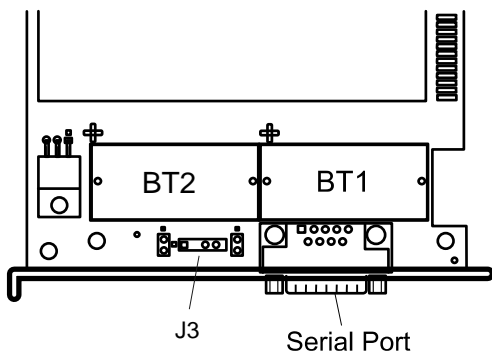

Figure 3-1. J3 Connector and Battery Locations on the PCI Cryptographic Coprocessor
- 6 Insert one of the new batteries into the battery tray provided with the kit, and connect the tray's wires to the J3 connector located near the RS-232 serial port; see Figure 3-1. The connector is polarized to ensure a proper connection.